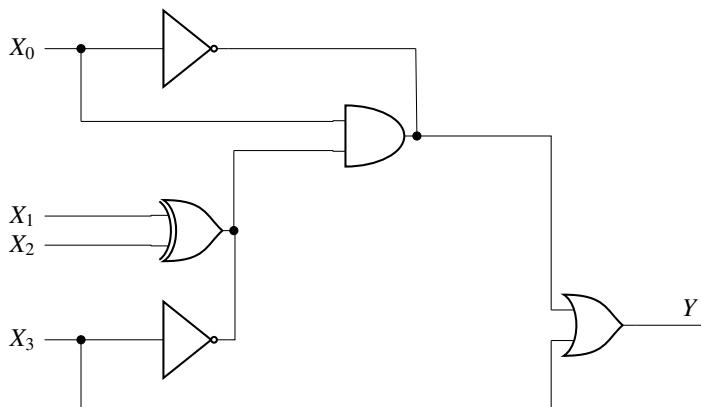

Fig. 3.36
54. The logic gates shown in the digital circuit below in Fig. 3.36 use strong pull-down nMOS transistors for LOW logic level at the outputs. When the pull-downs are off, high -value resistors set the output logic levels to HIGH (i.e. the pull-ups are weak). Note that some nodes are intentionally shorted to implement “wired logic”. Such shorted nodes will be HIGH only if the outputs of all the gates whose outputs are shorted are HIGH.